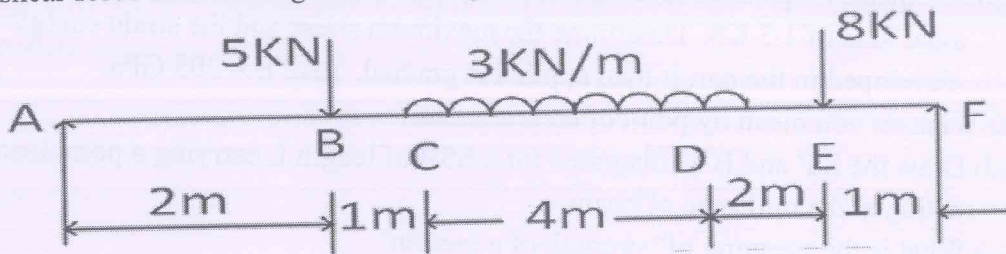

Fig.1
b) A beam of 10-m length is acted upon by forces and a couple as shown in fig 1. Draw the shear force and bending moment diagrams.
2. A steel bar is subjected to loads as shown in fig. 1. Determine the change in length of the bar ABCD of 18 cm diameter.  $E = 180 \text{ kN/mm}^2$  [3]
Assuming Poisson's ratio as 0.25, Find in terms of the modulus of Elasticity  $E$  of the material, the strains in the direction of each force, If  $E = 2.0 \times 10^5 \text{ N/mm}^2$ , Find the values of the modulus of rigidity and bulk modulus for the material of the block. Also, calculate the change in the volume of the block due to the applications of the loading specified in Fig.1.